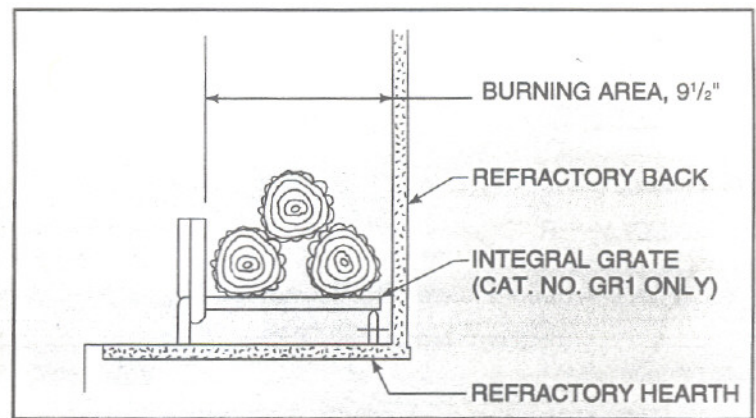

Figure 21
- E. **GRATE.** The factory installed Integral Grate must be used to hold the logs from falling out of an open fireplace and to allow air to pass between the burning logs. It is important to keep the fire off the hearth and to allow the ashes to collect beneath the fire, thereby forming a layer of additional heat protection. See Figure 21. Use only Catalog Number GR1 Integral Grate for replacement.
- H. **SETTING THE FIRE.** Check the flue damper to be sure it is fully open. Place crumpled or twisted paper under the Grate. Loosely arrange kindling or small pieces of wood to form a layer above the paper. Place three logs in a rough pyramid as shown in Figure 21, being sure to allow free air space between the logs. Small sticks of wood may be used to separate the logs. Use only solid wood fuel or a listed decorative gas appliance. Do not use a fireplace insert or other products not specified for use with this fireplace. **NOTE: When heated the first time, the temperature of the fireplace must be raised gradually, to prevent moisture within the refractory from causing cracks, and to allow the binders in the insulation to dissipate.**